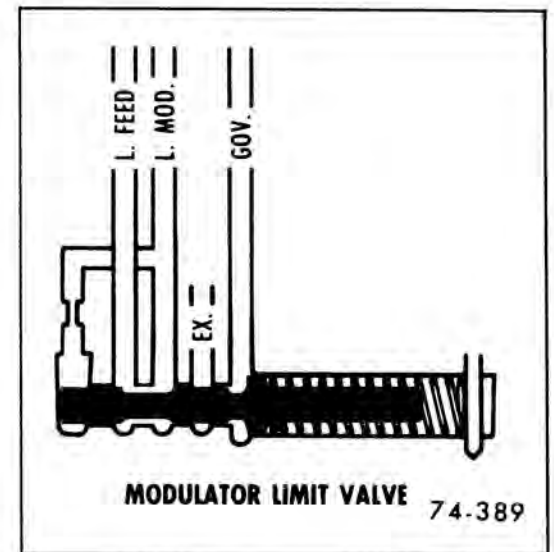

Figure 74-17—Modulator Limit Valve
i. Modulator Limit Valve (See Figure 74-17)